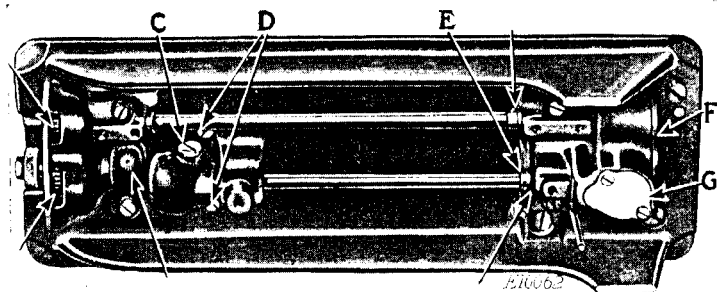

Fig. 21. Base View of Machine, Showing Oiling Points
Occasionally remove the cover (F, Fig. 21) and the screw (C, Fig. 21) of the gear cases on the underside of the bed of the
In case the sewing hook is not correctly timed, remove the screw (C, Fig. 21) and loosen the two set screws in the hook driving gear thus uncovered, then turn the balance wheel over toward you until the needle bar has descended to its lowest point and has risen until the lower timing mark across the needle bar is just visible at the end of the needle bar frame. Now turn the sewing hook until the point of the hook is at the centre of the needle, after which securely tighten the two set screws in the hook driving gear and replace the screw (C).
Remove the gear case cover (G, Fig. 21) and loosen the two screws in the hook shaft spiral driving gear thus uncovered, also loosen the screws in the collar (E, Fig. 21), then loosen the two screws (D, Fig. 21) and move the hook saddle toward or away from the needle, as required, after which securely tighten the two screws (D, Fig. 21), then move the collar (E, Fig. 21) over against the bushing and tighten its set screws. Tighten the two screws in the hook shaft spiral driving gear and at the same time hold the shaft to the right and the spiral gear to the left to eliminate any end play in the hook driving shaft.